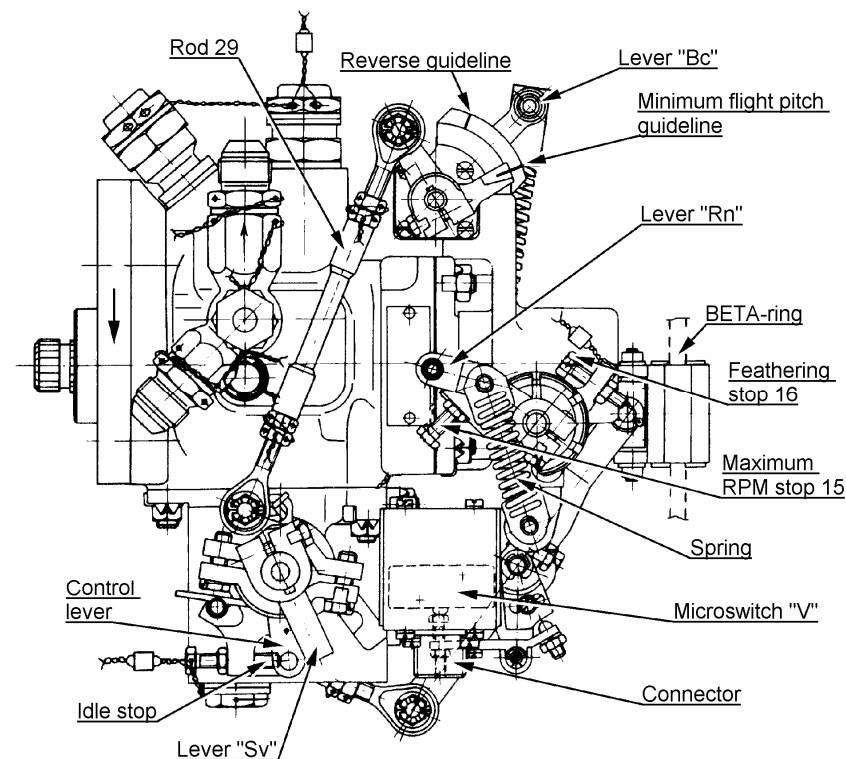
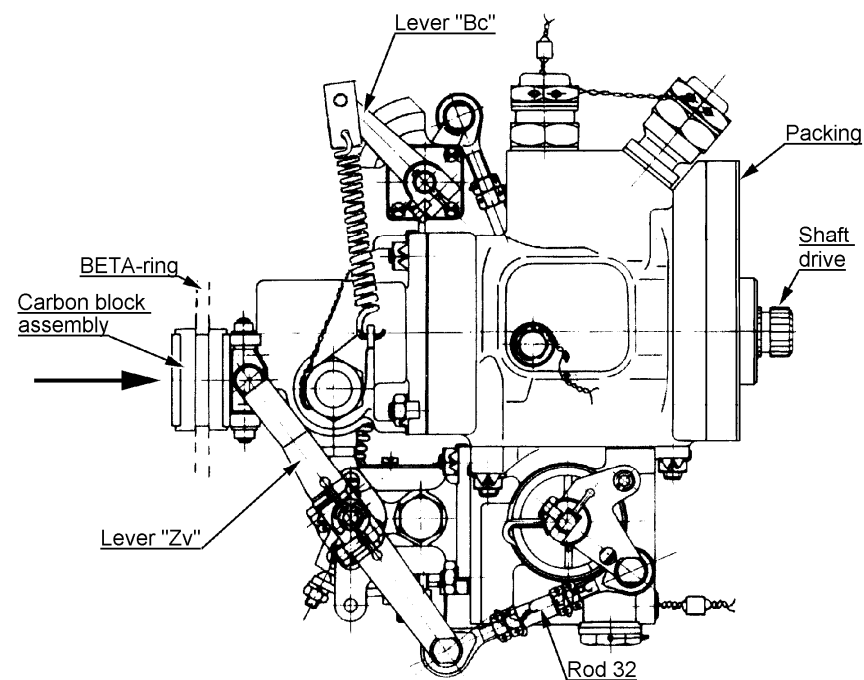

Figure 11-12 Governor LUN7816 View to engine
Figure 11-13 Governor LUN7816 View from engine
- (1) Verify governor condition for damage. No damage acceptable.
- (2) Verify installation of spring on the lever "Rn" (figure 11-12).
- (3) Verify locking devices of appropriate elements (figures 11-12, 11-13, 11-14).
- (4) Verify seals and securing (figures 11-12, 11-13).
BE CAREFUL AT SECURING ELEMENT 32 (FIGURES 11-13 AND 11-14, LOCKING WIRE AND COTTER PIN). LEFT THREAD IS MARKED WITH "L".
- (5) With "Bc" lever (figure 11-12) in basic position (guideline on the lever with cam aligns with minimum flight pitch guideline on the governor scale and the control lever pin touches the stop), verify "Rn" lever travel between stops 15 and 16.
- (9) Verify functionality of the microswitch "V" (figure 11-12) by moving lever "Zv" in the direction of arrow (figure 11-13).
- e) Verify, whether the ball 5/16" is inside the fitting and tighten the nut. Secure the connection with locking wire (figure 11-12).
- (19) Connect rod from RPM control system to the lever "Rn" (figure 11-12) and secure.
- (20) Connect the control rod from engine to the lever "Bc" in its basic position (guideline on the lever with cam is aligns with minimum flight pitch guideline on the governor scale and the control lever pin touching the stop) - figure 11-12 - and secure.
- (21) Connect plug to the beta switch and secure.
- (22) Adjust the governor according to procedure in this section.